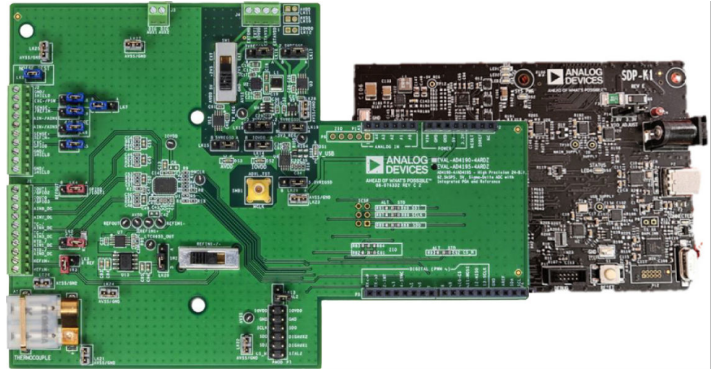

Figure 3. Hardware Configuration, Setting Up the EVAL-AD4190-4ARDZ Evaluation Board
3. Connect the SDP-K1 board to the EVAL-AD4190-4ARDZ board using the Arduino connector (see Figure 3).